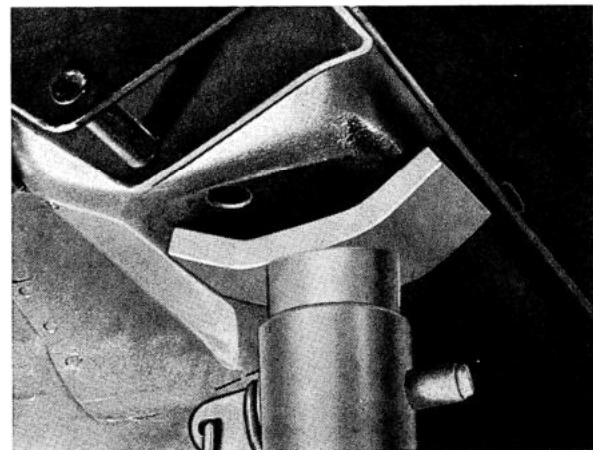

Fig. 4-141. Locating the axle prop
1. Place chocks in front of the front wheels. Slacken the rear wheel nuts. Raise the rear end of the vehicle and place an axle prop under in front of the rear jack attachments, see Fig. 4-141. Note that the prop must not be placed at a point further than the dash line indicated in the figure. Take off the rear wheels.